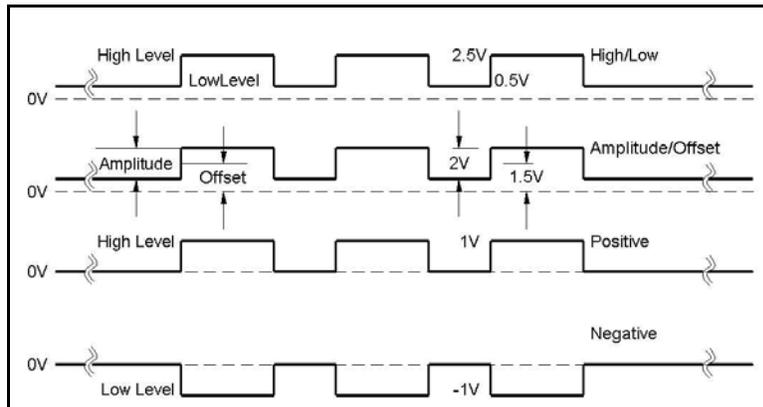

Figure 3-54, Amplitude Level Modes Options
Using the **WX2182** as your pulse source, you have four options to set up the pulse levels, as shown in Figure 3-54 and explained below:
1. **High/Low Levels.** This is the default option. Using this mode, you can program the high and the low levels directly, while allowing the instrument to set the internal amplitude and offset according to your selection. The maximum amplitude that can be programmed is 2 V peak-to-peak. To achieve this level, program the low level to -1 V and the high level to +1 V. Note that although the specified maximum peak-to-peak amplitude is 2 Vp-p, the high and low level can not exceed the ± 2.5 V rail limits. Also note that the amplitude level is specified when the pulse is applied on a 50Ω load impedance. The only way to exceed the peak-to-peak rail limitation is by increasing the load impedance, but then expect degradation of the pulse shape. The example in Figure 3-54 shows the high level set at 2.5 V and the low level set at 0.5 V and therefore, the resulting peak-to-peak level is 2 V.
2. **Amplitude/Offset.** This option allows separate modification of the amplitude and the offset. This option is very useful when you want to vary the vertical position of the pulse, but hold the peak-to-peak amplitude level fixed. The example in Figure 3-54 shows the amplitude set at 2.5 V and the low level set at 1.5 V and therefore, the resulting waveform is exactly as was programmed in the high/low level programming example.
3. **Positive.** This option is very useful when you want to vary the positive position of the pulse, but hold the low level fixed at the 0 V level. The example in Figure 3-54 shows the high level set at 1 V and the low level fixed at 0 V. Modification of the high level will not alter the low level position.
4. **Negative.** This option is very useful when you want to vary the negative position of the pulse, but hold the high level fixed at the 0 V level. The example in Figure 3-54 shows the low level set at -1 V and the high level fixed at 0 V. Modification of the low level will not alter the high level position.